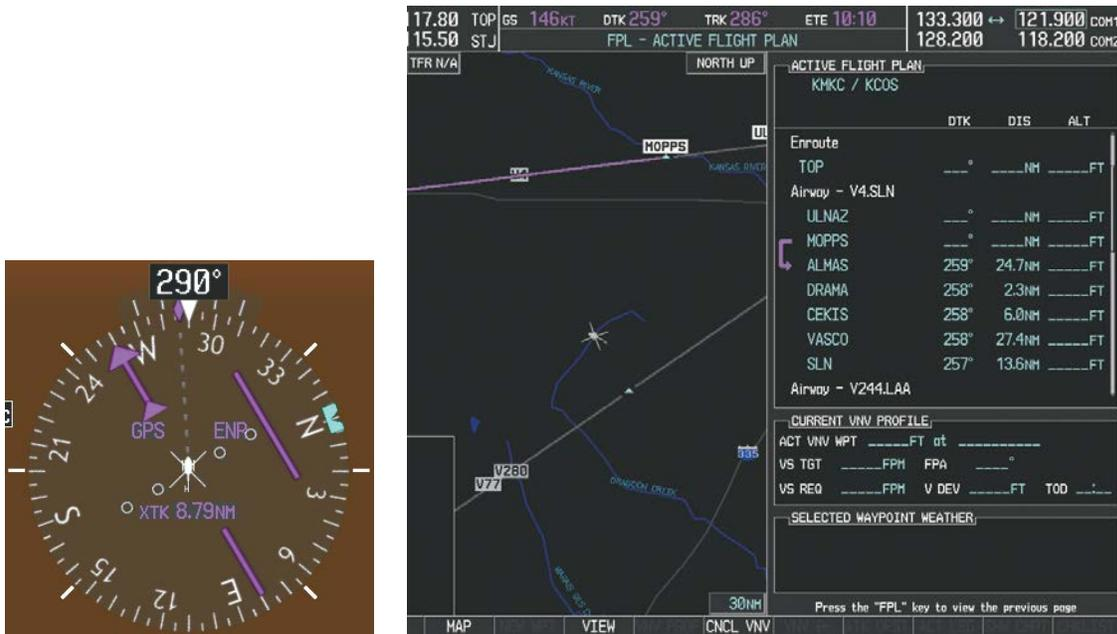

Figure 5-120 V4 Now Active Leg
d) Verify the displayed leg is the desired leg and press the **ENT** Key. Note in Figure 5-120, the magenta arrow in the flight plan window and magenta line on the map indicating V4 is now the active flight plan leg. Note the phase of flight remained in Terminal (TERM) mode up to this point because a departure leg was active. Since a leg after the departure is now active, the current CDI flight phase is ENR (Enroute) and CDI scaling has changed to 2.0 nm.